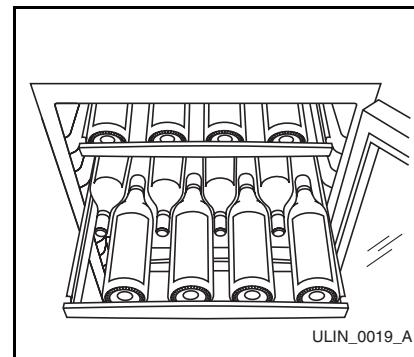

Figure 8
2. Repeat Step 1 to stock the next higher rack, and continue until all racks are filled (Figure 8).